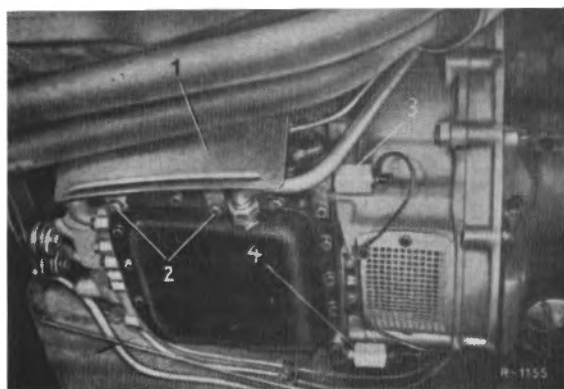

Fig. 00-16/18
If the lifting magnet and the two oil pressure switches are in good working order shift the selector lever again to position "4" with the hand brake applied and by adjusting the two nuts (2) (Figs. 00-16/19 and 20) lengthen the push rod of the lifting magnet as much as is required to obtain an idle speed corresponding to that in lever position "0";